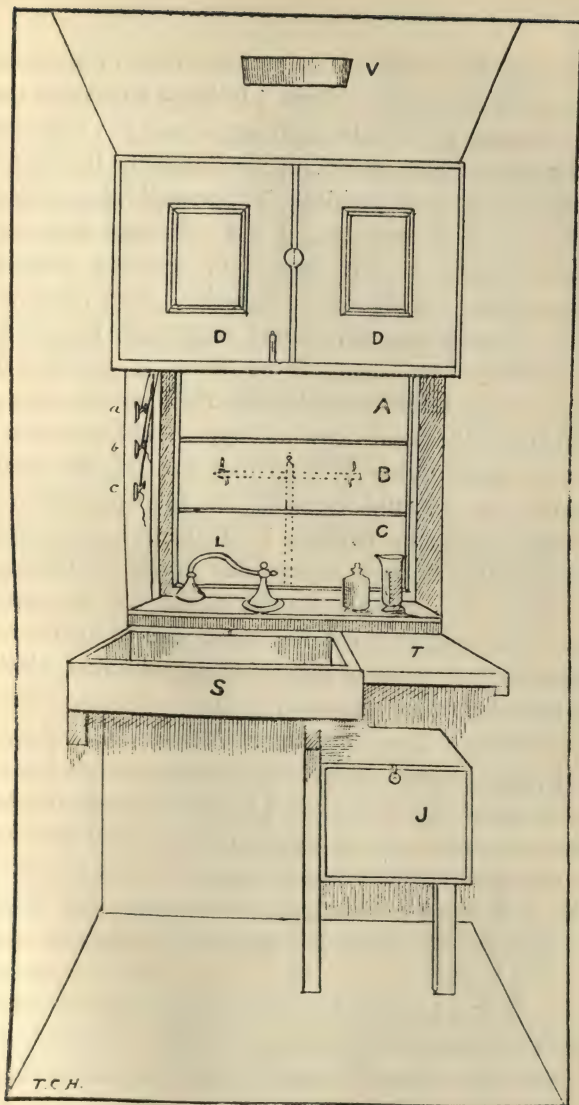

Fig. 18,—The Dark Room,
“At the outside the room has the appearance of a very large cupboard with folding-doors; but within it presents the view shown in Fig. 18. S is the sink, in which lies a wooden grid (not shown in the cut), upon which a plate may be laid after development, while the rose-tap above (L) treats it to a plenteous shower-bath. We may